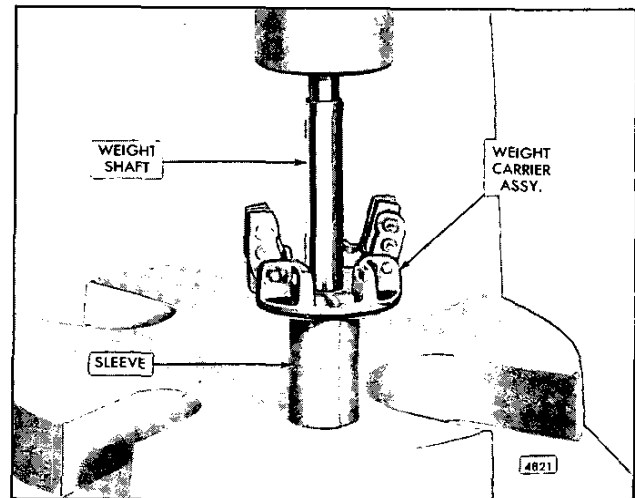

Fig. 6 - Removing Governor Weight Shaft from Weight Carrier Assembly
- a. If removal of the weight carrier assembly from the shaft is necessary, support the shaft, weight carrier and sleeve on the bed of an arbor press as shown in Fig. 6 and press the shaft out of the weight carrier assembly.